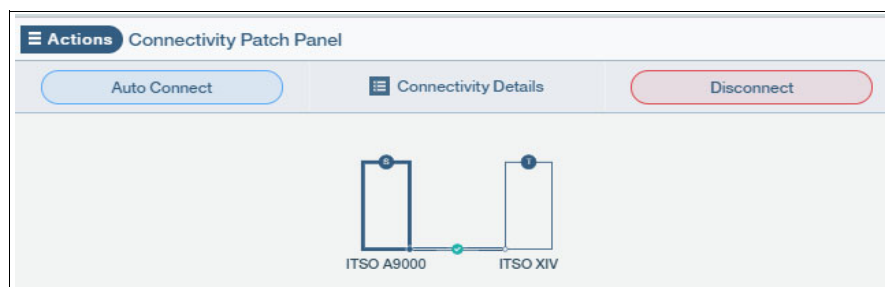

Figure 7-30 Connectivity between A9000 and XIV
- Confirm that both the source and destination are configured and accessible in the Hyper-Scale Manager and that there is FC connectivity between these systems. Figure 7-30 shows the source (XIV) and destination (A9000) systems with confirmed connectivity between them.